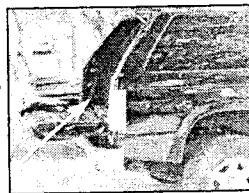

Fig. 2
5. Locate the vehicles tail light wiring harness at the rearmost corner of the vehicle. the harness can be identified by connectors similar to those on the T-Connector harness (fig. 2).